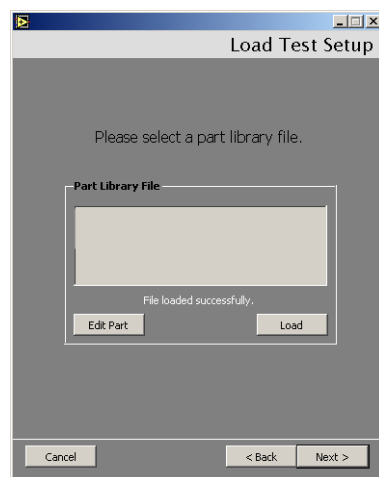

Figure 2-28 Load Test Setup
- ❑ **Existing Part** and click **Next** and Figure 2-28 appears.
4. Navigate to the required directory and select a file and click **Load**. Figure 2-28 reappears with the file name and path populated into the *Part Library File* field.